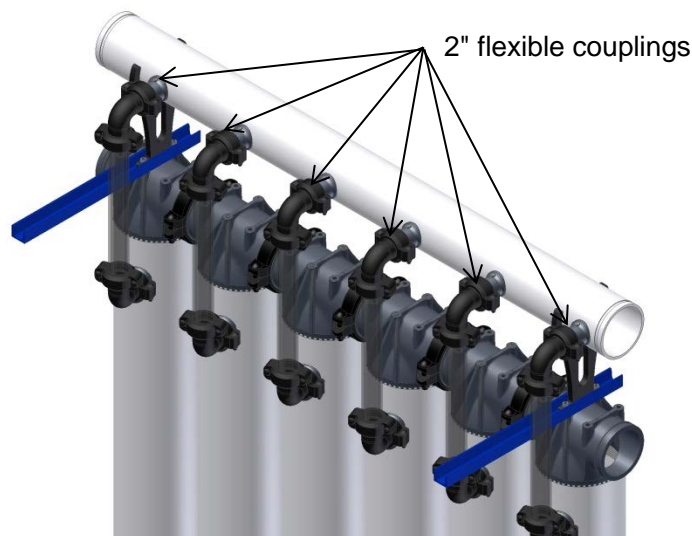

Figure 10-27: Attaching the transparent 2" filtrate connection of the modules to the filtrate header
9. Connect the 90° elbow pieces of the transparent 2" filtrate pipes of the modules to the filtrate header using the 2" flexible couplings (see Figure 10-27). Ensure the seals of the couplings are properly seated and leak-proof.